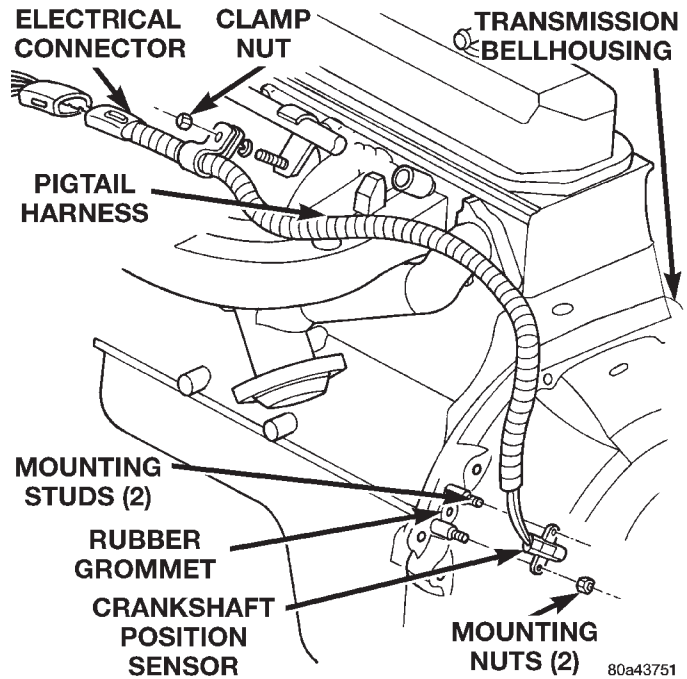
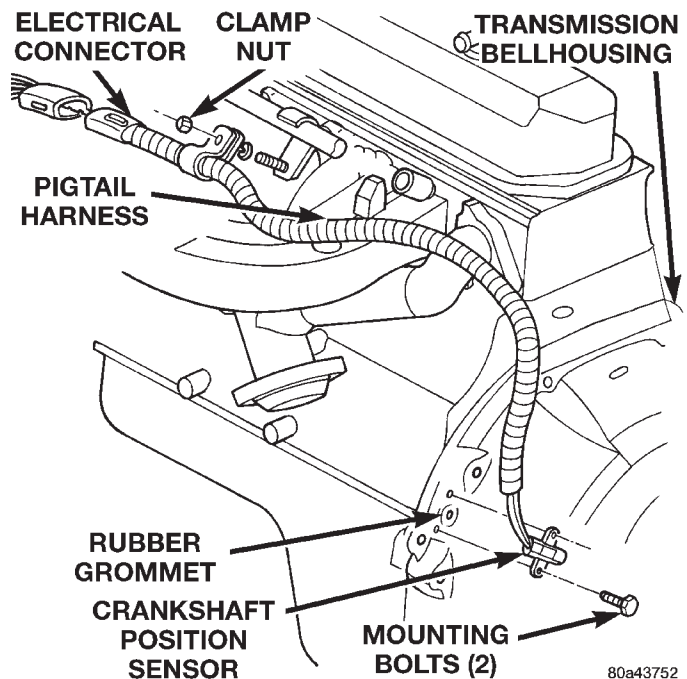

Fig. 7 Crankshaft Position Sensor—2.5L Engine
Fig. 8 Crankshaft Position Sensor —4.0L Engine
- (7) Mark front propeller shaft, axle, and transfer case yokes for installation alignment, if equipped.
- (8) Remove propeller shaft(s).
- (9) Unclip wire harnesses from transmission and transfer case, if equipped.
- (10) Disconnect transfer case vent hose, if equipped.
- (11) Disengage any wire connectors attached to transmission or transfer case, if equipped, components.
- (12) Support transfer case, if equipped, with transmission jack.
(13) Secure transfer case, if equipped, to jack with safety chains.
(14) Disconnect transfer case shift linkage at transfer case, if equipped.
(15) Remove nuts attaching transfer case to transmission, if equipped.
(16) Remove transfer case, if equipped.
(17) Remove crankshaft position sensor (Fig. 7), (Fig. 8).